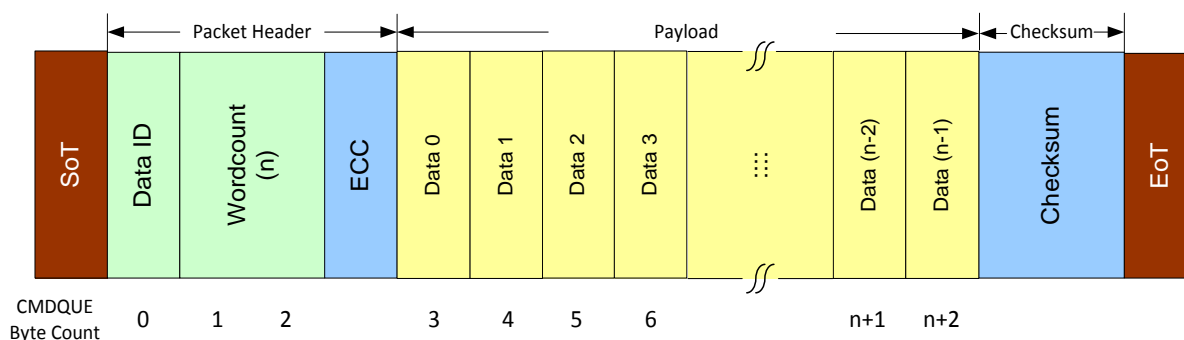

Figure 4-14 DSI Packet Byte Location in CmdQue
2. A DSI packet with header is shown in Figure 4-14. Host is responsible to write the whole DSI packet, including header bytes, into the CmdQue. ECC and Checksum will be appended by TC358860XBG before sending out via DSI link.
3. TC358860XBG interprets the 1st data in CmdQue as the packet Data ID, 2nd and 3rd bytes as Word Count for a long packet (or Data 0 and Data 1 for a short packet). The 4th byte as Data 0 for a long packet, 5th byte as Data 1, as indicated in the bottom of Figure 4-14.
- iii. TC358860XBG DSI Tx fetches the first 3 bytes of data from CmdQue appended ECC to form the header of the command. The remaining 32 bytes of data plus its calculated Checksum will be added as payload of the packet as shown in Figure 4-14.